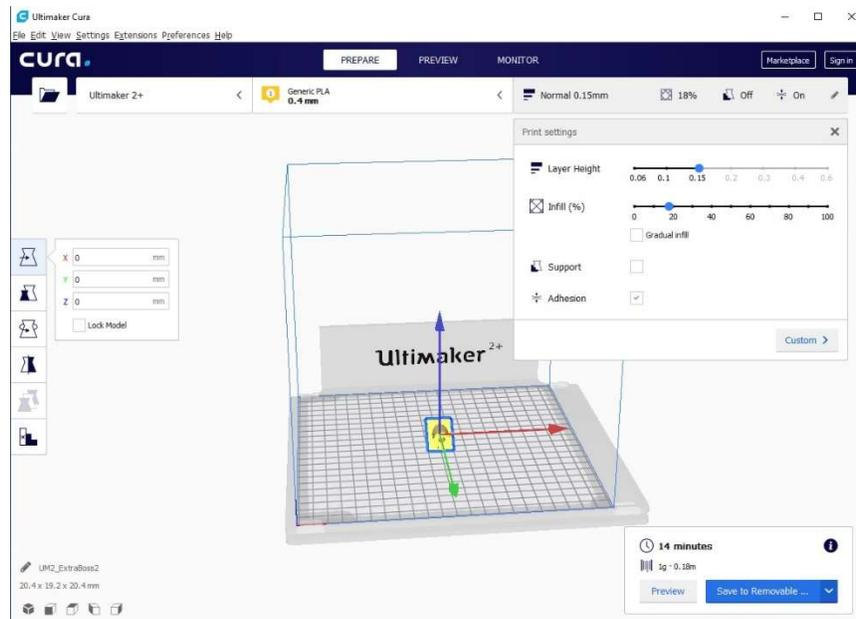

Figure 2
- 3.1.7 Once you select your part, vector lines and arrows will appear on the part and the move options will be activated as shown in Figure 2.